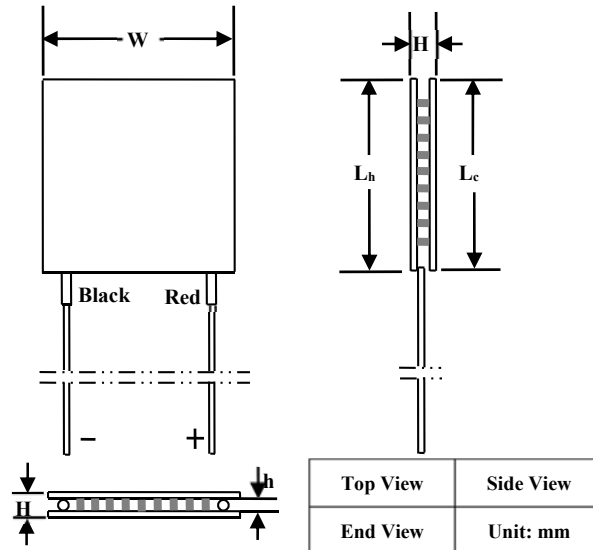

Figure 6. Mechanical Dimensions of Non-sealed ATE1-TC-127-12R1A
**Note:** As Figure 6 shows, when the red lead wire is on the right, then the top surface is the cold side of the TEC.